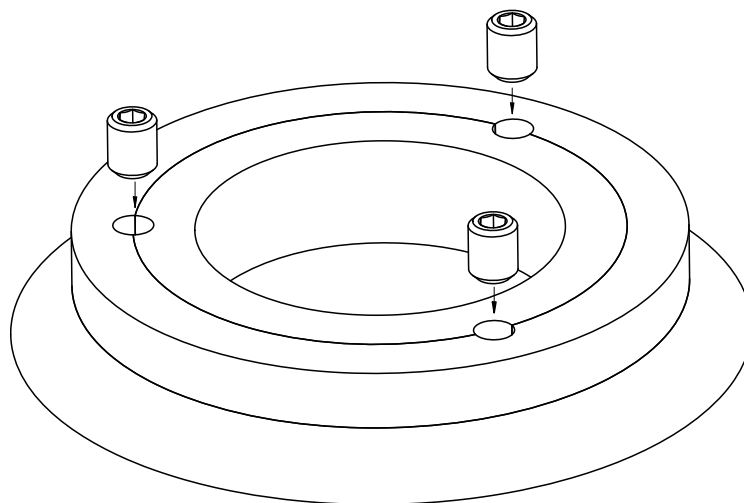

Figure 6: Locking the wear ring.
- 4 Both wear rings then have to be secured. Drill 3 holes Ø5 mm, 9 mm deep, right on the seam between impeller and wear ring c.q. pump casing and wear ring. Subsequently cut screw thread M6 (see figure 6).